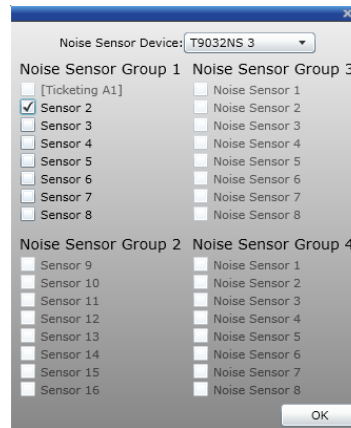

Figure 6-70: Ambient Sensor Assignment
Clicking on the **Assign Sensors** button will launch the Ambient Sensor Assignment window as shown in Figure 6-70. This is where one or more ambient sensors are directly assigned to control the currently selected channel. Each channel can have one (1) to four (4) ambient noise sensors assigned. When multiple sensors are use, the system averages the signal levels from all assigned sensors to obtain an ambient noise level reading. There are three very critical rules related to using multiple ambient noise sensors in a single zone that are described below.